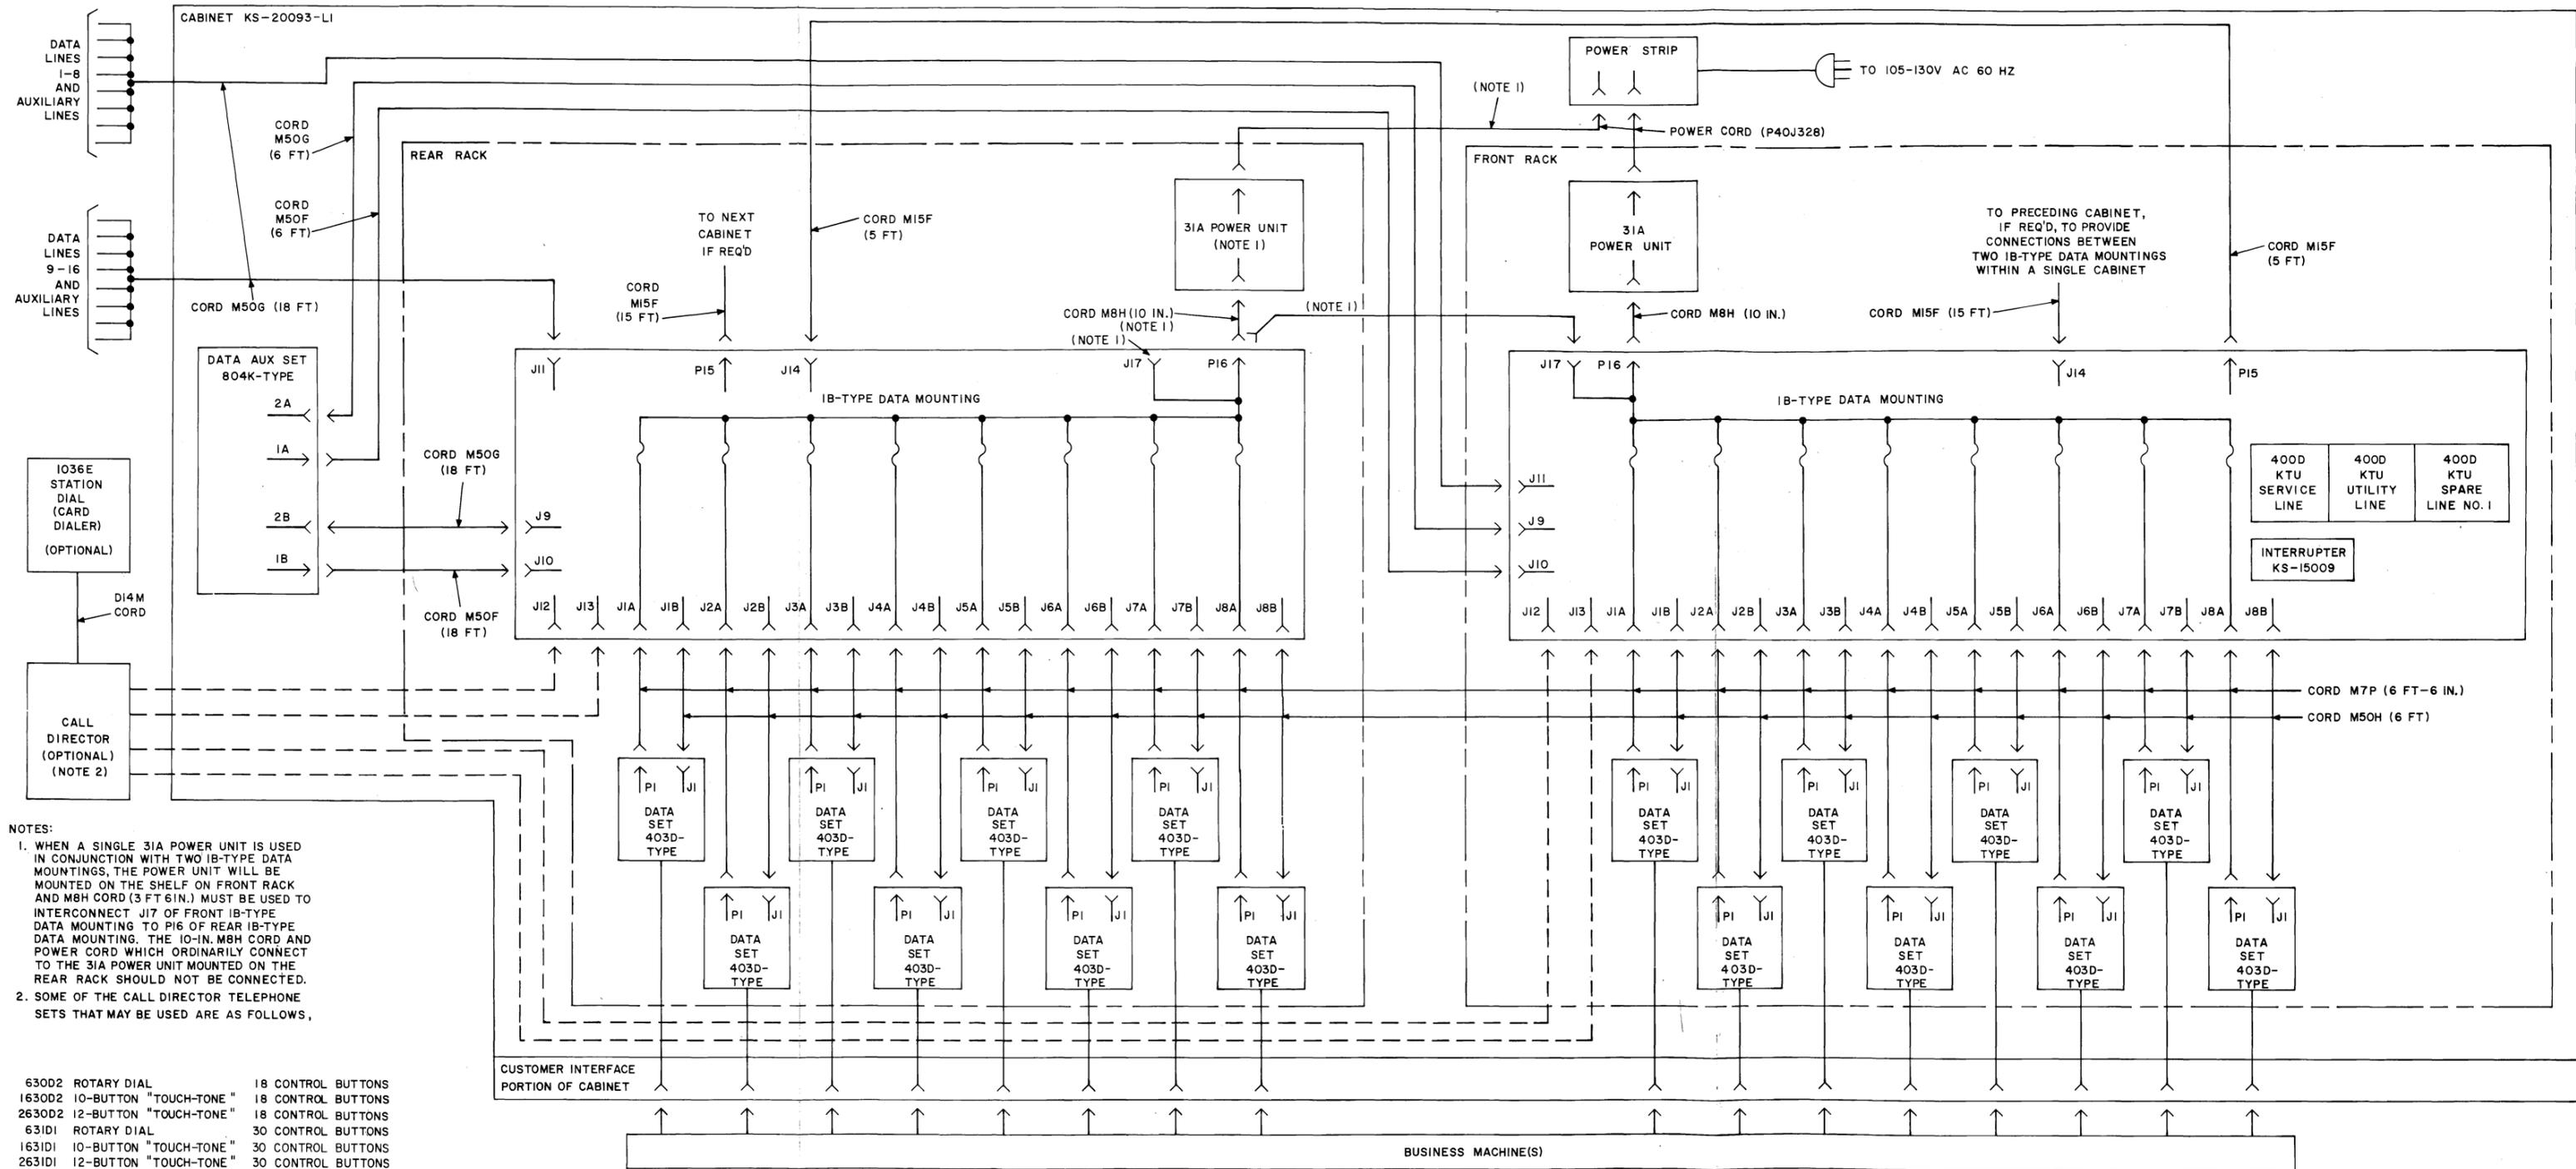

Fig. 6—Data Set 403D-Type Multiple Data Set Station—Block Diagram
3.01 A functional block diagram of a typical multiple data set station using sixteen Data Sets 403D-type, two 1B3 Data Mountings, two 31A Power Units, a Data Auxiliary Set 804K-type and an optional CALL DIRECTOR telephone set is shown in Fig. 6.